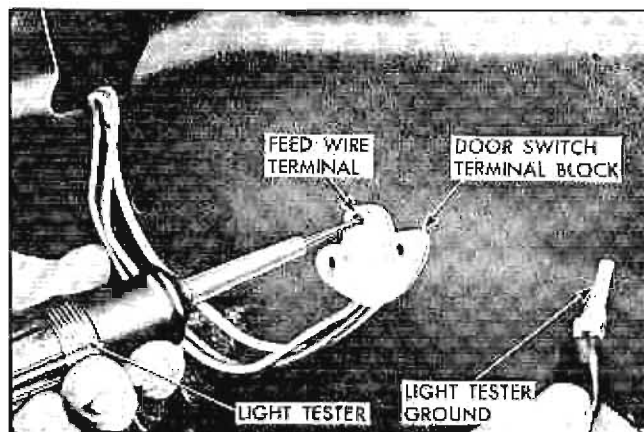

Fig. 8-3 Checking Feed Circuit
1. Connect one light tester lead to feed terminal of switch block and ground other tester lead to body metal (Fig. 8-3).